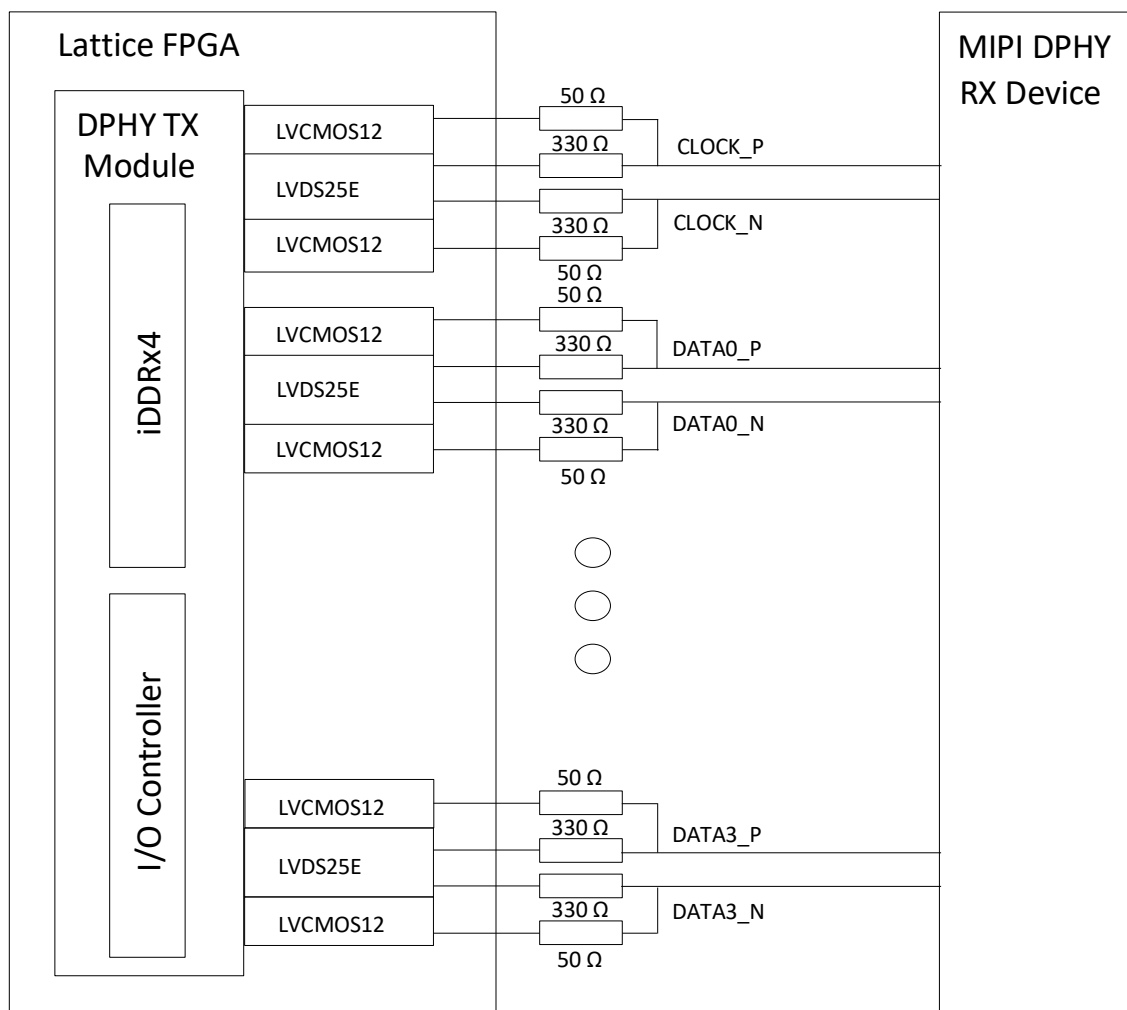
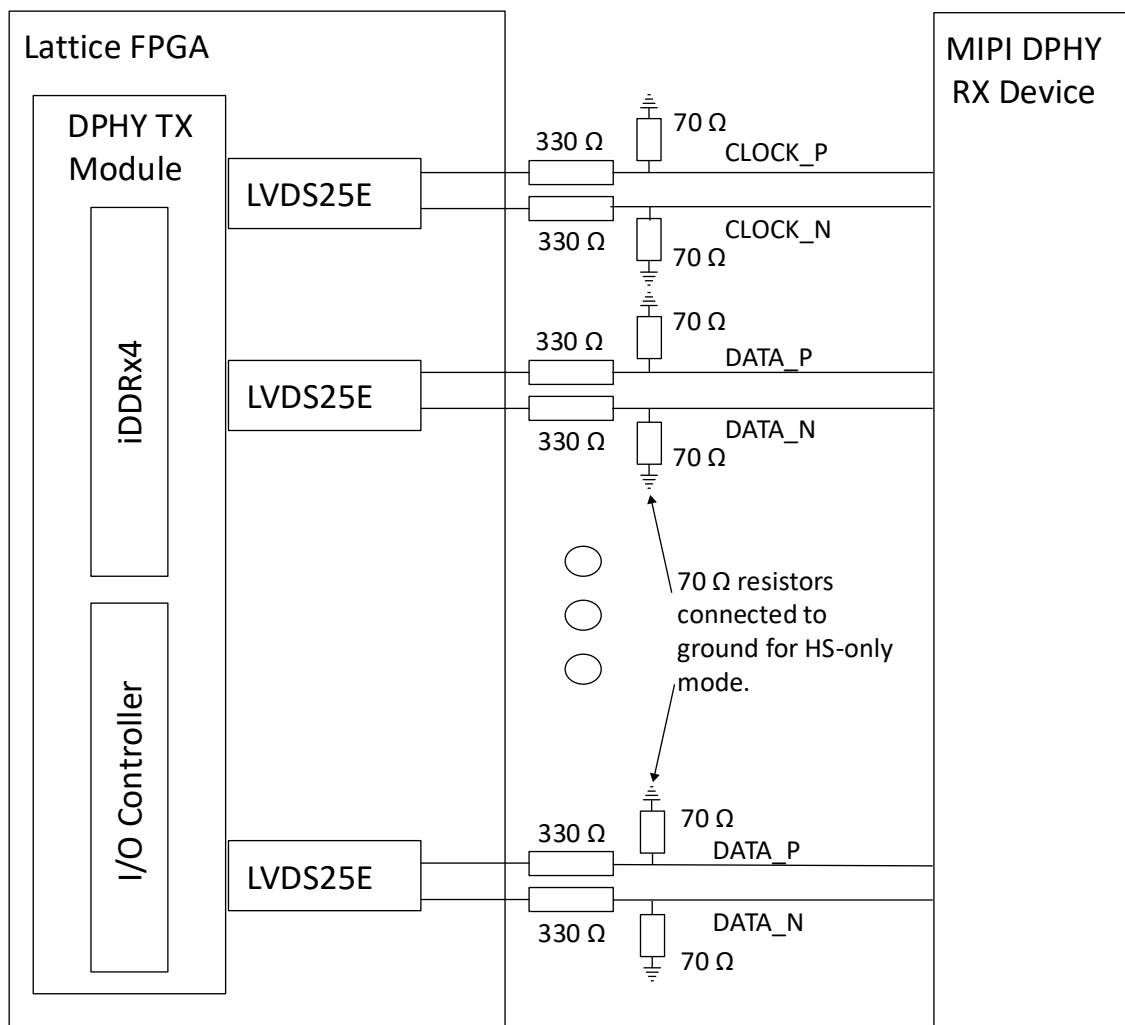

Figure 3.3. Unidirectional Transmit HS Mode and Bidirectional LP Mode Interface Implementation
Figure 3.4. Unidirectional Transmit HS Mode Only Implementation
Figure 3.3 shows the block diagram of the Unidirectional Transmit HS Mode and Bidirectional LP Mode interface. Figure 3.4 shows the block diagram of the Unidirectional Transmit HS Mode Only interface. Figure 3.3 and Figure 3.4 do not apply to CrossLink and CrossLinkPlus as their programmable I/Os can only be configured as MIPI D-PHY receivers. Figure 3.3 and Figure 3.4 also do not apply to CrossLink-NX, Certus-NX and CertusPro-NX since these devices use Programmable I/Os that can be configured as MIPI D-PHY output buffers without any need for external components.
2. If LVCMOS33D is used instead of LVDS25E, external resistors shown in Figure 3.3 and Figure 3.4 should be adjusted to 400 Ω to modulate common mode voltage level.